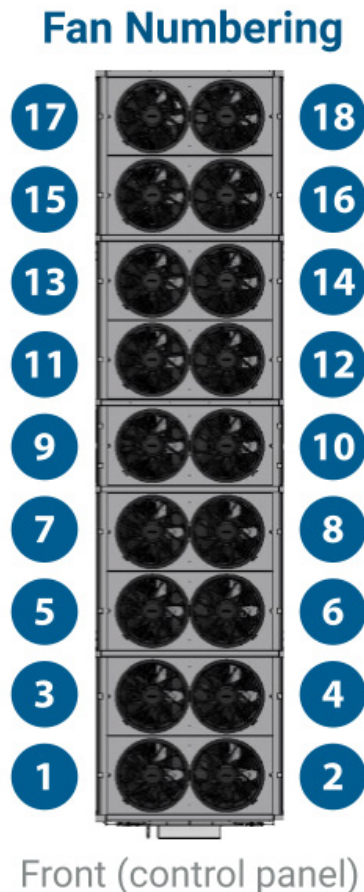

Figure 170. Fan Numbering Plan View
Replacement fans must be readdressed prior to unit operation. Refer to section **BAC Part Number 251299, Fan and Motor Removal & Installation on Page 35** or **BAC Part Number 251317 EC Fan and Motor Assembly Removal & Installation on Page 41** for instructions on removing and installing fans. Each fan needs to be assigned a unique address, starting with “1,2,3,...”. Replacement fans are pre-programmed with a default Modbus address of 247. Only one new fan can be readdressed at a time. If replacing multiple fans at a time, start with the fan closest to the control panel on the right side, Fan 2 in **Figure 170**. To address a newly installed fan:
8. Use the dropdown menu titled “Select Fan to Replace” to select the correct fan number. Refer to **Figure 170** to identify the correct fan number.